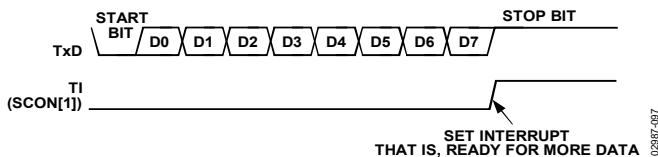

Figure 82. UART Serial Port Transmission, Mode 1
Transmission is initiated by writing to SBUF. The write to SBUF signal also loads a 1 (stop bit) into the ninth bit position of the transmit shift register. The data is output bit by bit until the stop bit appears on Tx/D and the transmit interrupt flag (TI) is automatically set, as shown in Figure 82.